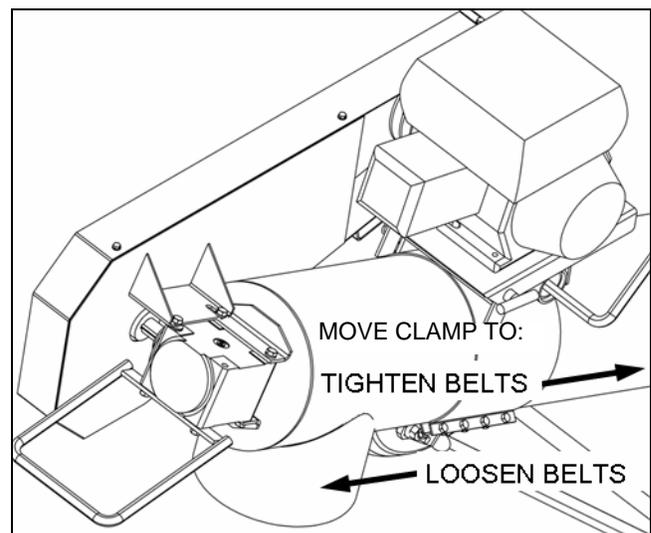

Figure 6.5
- If the drive belts are slipping, the belts should be tightened. To tighten the belts, loosen the over-center handle, motor mount clamp, and wheel frame clamp. Slide each clamp toward the hopper approximately 1/2" and tighten nuts (see Figure 6.5). Test belt to ensure it no longer slips, repeat if necessary.
belts, loosen the over-center handle, motor mount clamp, and wheel frame clamp. Slide each clamp toward the spout approximately 1/2" and tighten nuts (see Figure 6.5). Test belt to ensure it no longer slips, repeat if necessary.